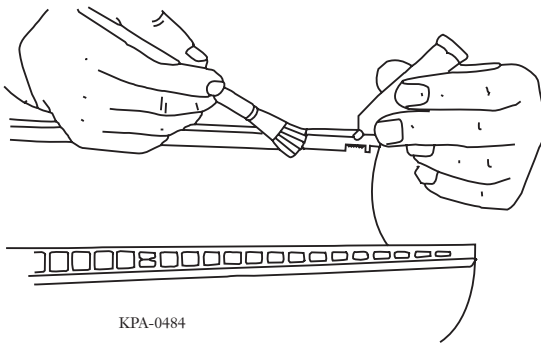

Figure 42 — Lubricate Gasket Channel
- Step 2** Apply one third tube of lubricant along the gasket channel in the closure cover (Figure 42).